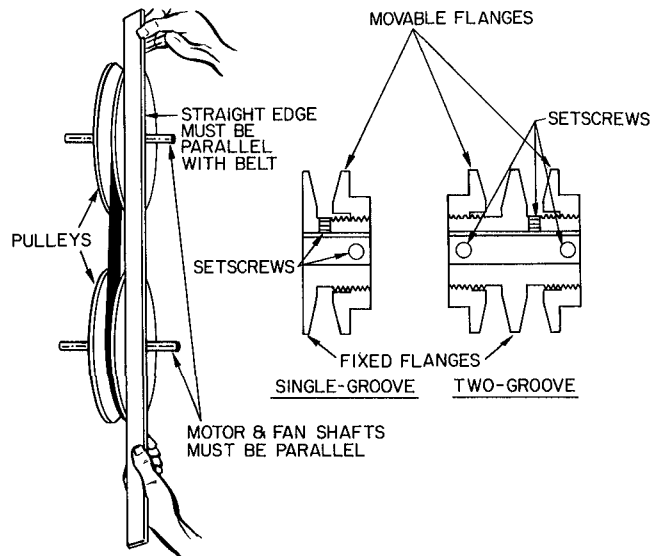

Fig. 21 — Indoor Air Fan Pulley Adjustment (50DP, DPE012,014 and 50DP016)
3. Loosen movable pulley flange setscrew (see Fig. 21).